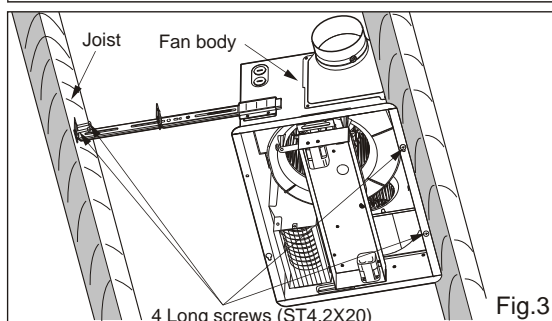

Fig.3
3. Install the suspension bracket and the flange of fan body to joists by using long screws (ST4.2X20). (Fig.3)